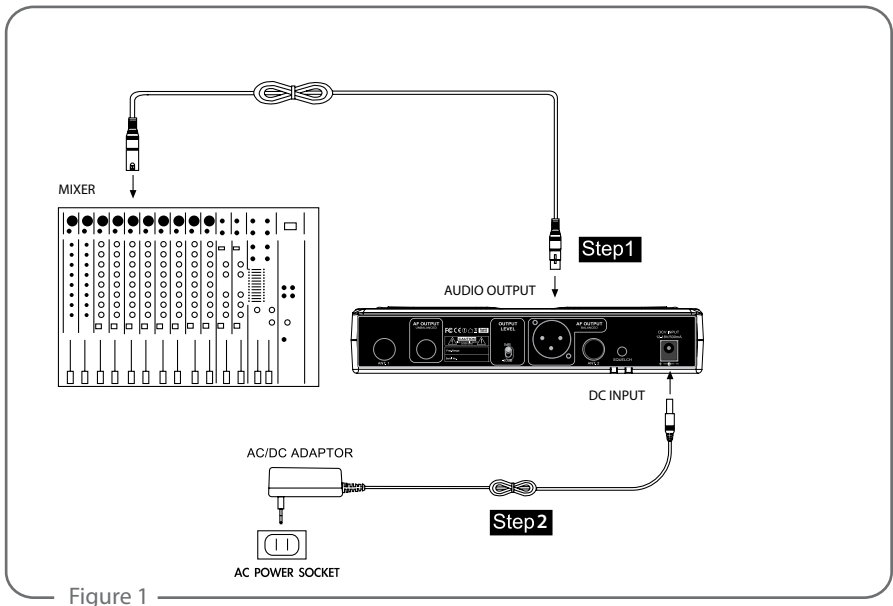

Figure 1
- (1) Connect to the subsequent unit (e.g. mixer, or amplifier)
Connect one end of a proper AF cable to the AF Output ⑪ or Balanced XLR Output socket ⑫, then plug another end to the “MIC IN” input socket of a mixer or a amplifier (Step 1 of Figure 1)
- (2) Connect the power supply unit
Plug in one end of AC/DC adaptor cable ⑤⑨ to Power Supply Jack ⑨ in the rear panel of receiver, and plug another end into an AC outlet (Step 2 of Figure 1)